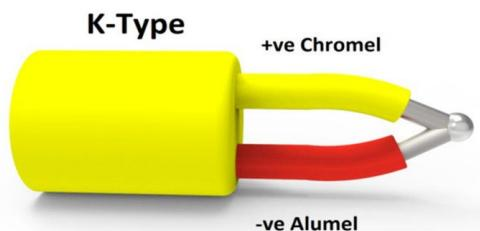

Figure A1a / Rajah A1a
- CLO1 a) Figure A1a shows a K-type temperature sensor, which is made of chromel and alumel. Write your knowledge of this sensor.